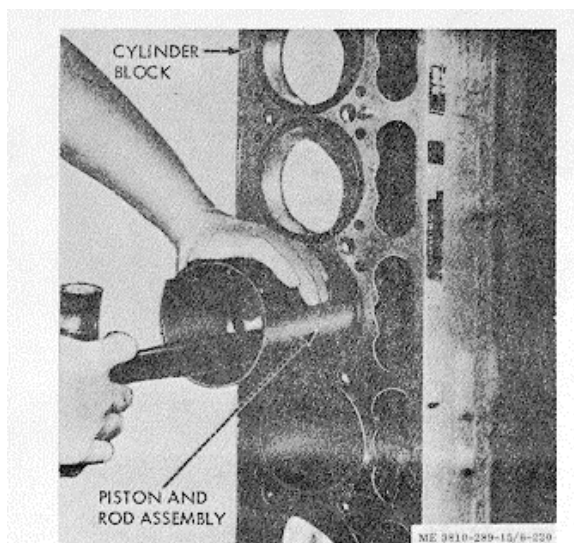

Figure 3-212. Piston and rod assemblies installation.
(14) Match cylinder number stamped on rod with cylinder number on block; locate stamped number on rod toward camshaft side of engine. Install rod and piston assembly into liner by tapping top of piston with wooden hammer handle until piston rings have cleared ring compressor, figure 3-212.